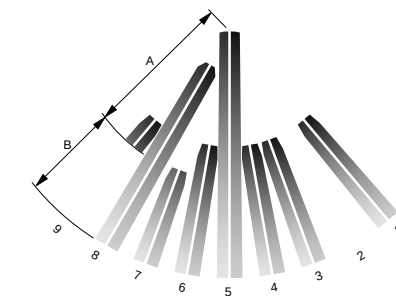

Figure 6. Cardboard undercrawl window mask
- Use the cardboard undercrawl window mask as shown in Figure 6. The undercrawl mask allows objects to be placed within 5 feet (1.5m) of, or directly below, the unit.